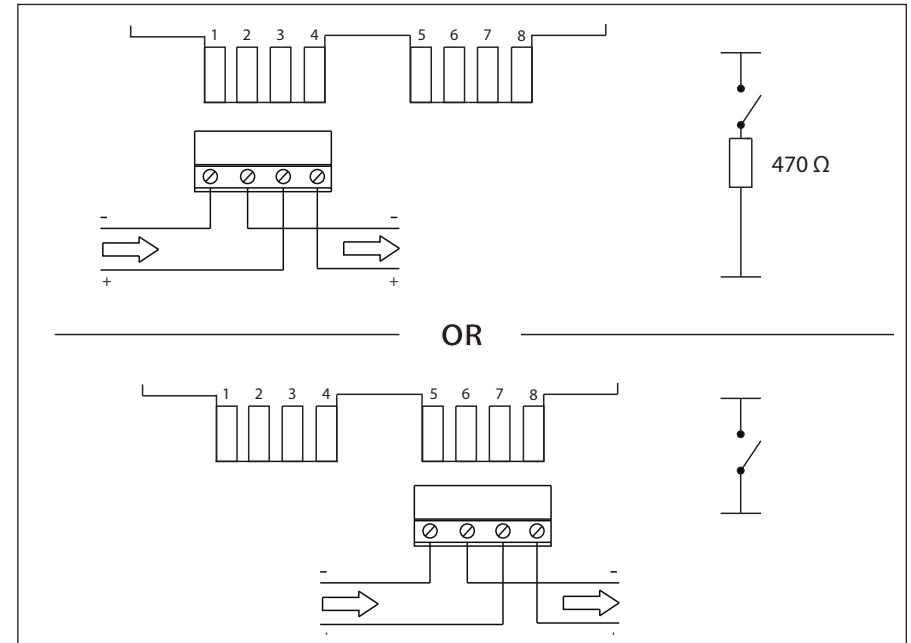

Fig 2 Terminal block connections
2. Run the cables into the backbox and connect them to the terminal block as shown in Fig 2. Ensure that functional earth/screen continuity is maintained.
3. Unlock the small front cover by inserting the forked key and pushing it home. Remove key, slide the cover down and remove the deformable element. Connect the terminal block as shown in Fig. 2, secure the call point to the backbox and refit the deformable element as required. Finally, replace the front cover in the reverse order in which it was removed and push it up until it locks.